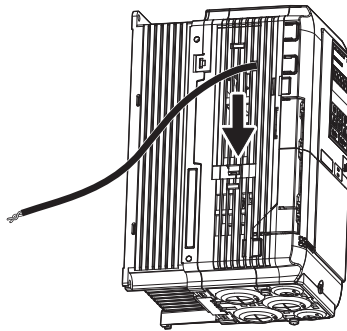

Figure 4.26 Reattaching the Connector Cover (2)
- Slide the connector cover back into place as shown in Figure 4.26.